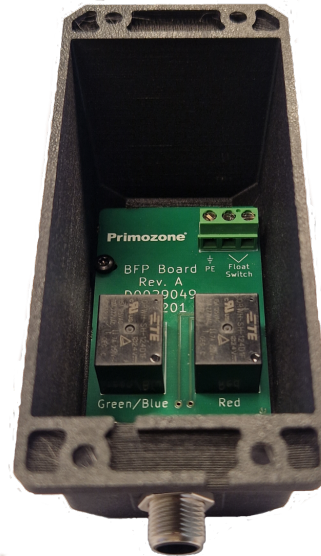

Figure 10 | PCB circuit board inside plastic housing.
2. Remove the plastic housing and detach the wires from the sensor and the grounding wire from the PCB card inside the plastic housing. See Figure 10 ► 15.